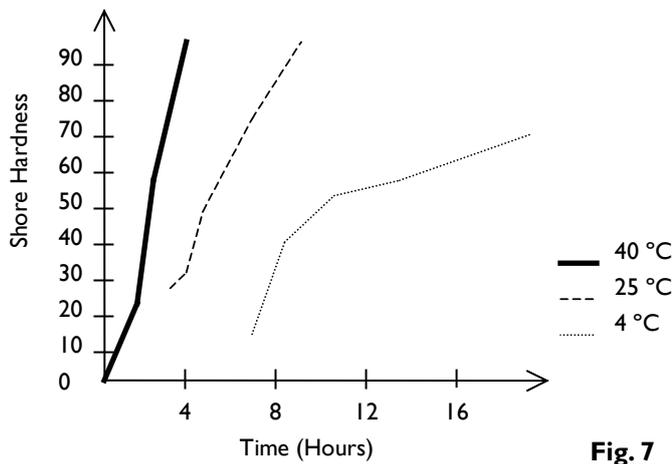

Fig. 7
Remove the entry ⑥, spread out the cable cores and the individual strands of uninsulated conductors for the compound packing. Pack the compound between the cores and strands shown. See notes below and Fig. 7 for compound preparation.
(See Fig. 7 for Curing Times).